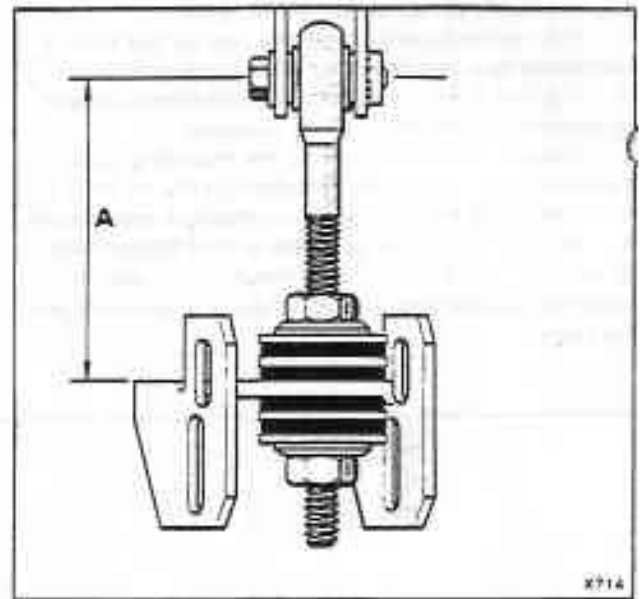

Fig. H2-16 Sub-frame to longeron tie-bar setting
7. Assemble the sub-frame to body tie-rods (if fitted) and set them to the length shown in figure H2-16. Connect the assemblies to the longerons and sub-frame. Do not tighten the bolts and setscrews at this stage.